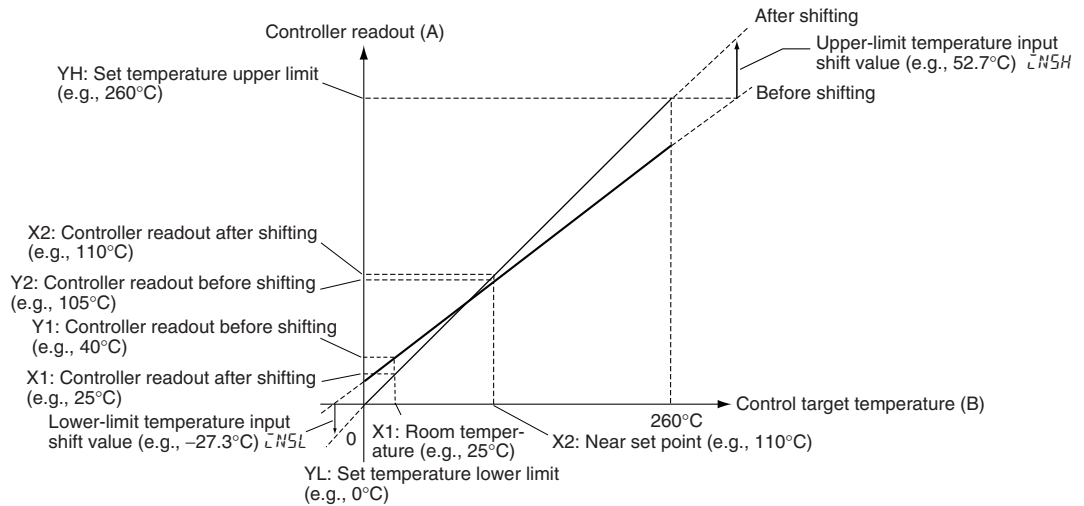

Figure 3 Illustration of 2-Point Shift
1. Shift the Controller readout at two points, near room temperature and near the value at which the temperature of the control target is to be controlled. For this reason, check the thermometer temperature (B) and Controller readout (A) with the thermometer temperature near room temperature and near the set point.
- Set the upper-limit temperature input shift and the lower-limit temperature input shift using the following formulas based on the temperatures before shifting (Y1 and Y2), the temperatures after shifting (X1 and X2), the set temperature upper limit (YH), and the set temperature lower limit (YL). The shift is illustrated in Figure 3.